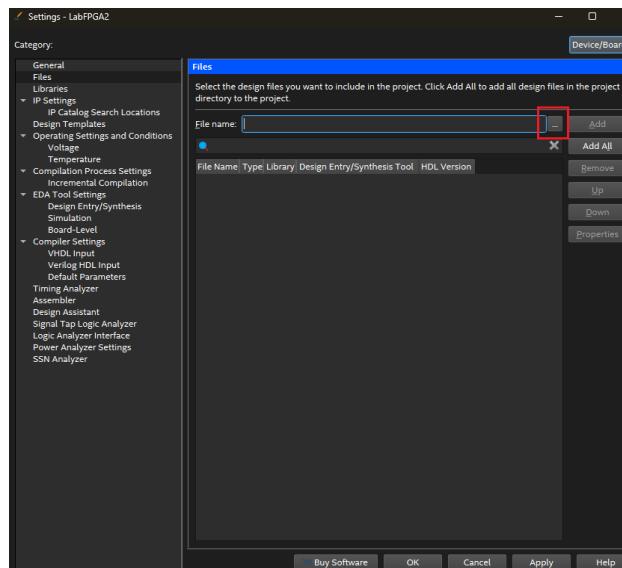

Figure 2. Select File
4. Under Settings - LabFPGA, click the three dots next to *File name*, as shown in Figure 2, and browse to select the file **LabFPGA2.sv** located at Desktop\LabFPGA_DE10St\LABResources\LabFPGA2.